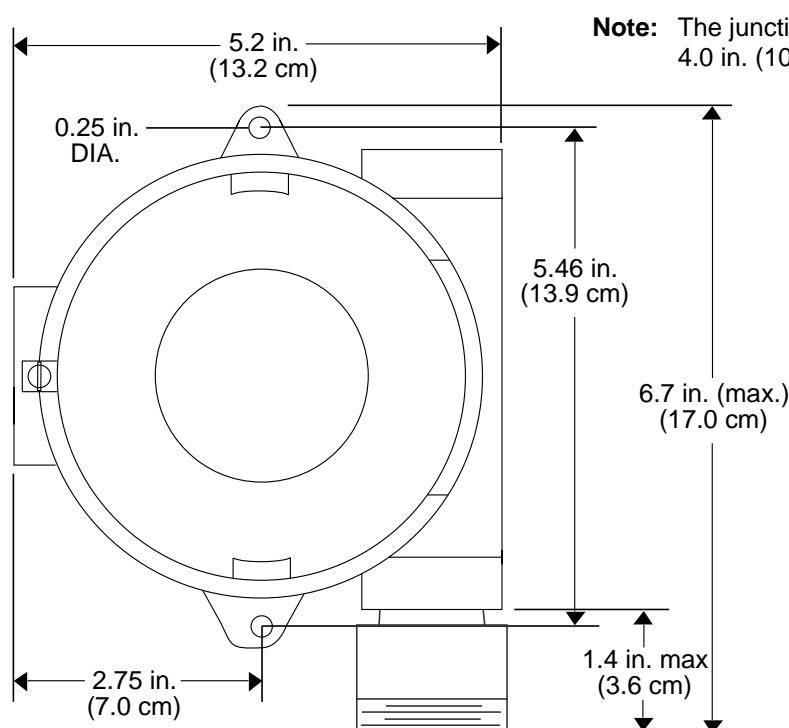

Figure 2: Mounting the Oxygen Transmitter
CAUTION: Mount the oxygen transmitter with the detector facing down (see Figure 2).
2. At the monitoring site, use #10 screws through the junction box's two mounting holes to secure the junction box to a vertical surface (see Figure 2).